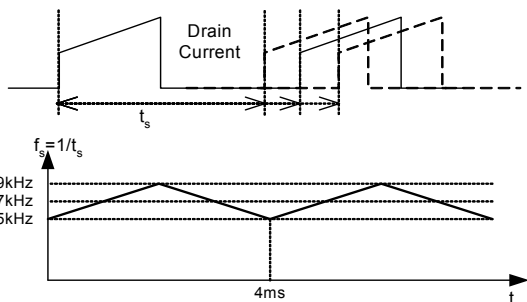

Figure 9. Frequency Modulation Waveform
7. Frequency Modulation : Modulating the switching frequency of a switched power supply can reduce EMI. Frequency modulation can reduce EMI by spreading the energy over a wider frequency range than the bandwidth measured by the EMI test equipment. The amount of EMI reduction is directly related to the depth of the reference frequency. As can be seen in Figure 9, the frequency changes from 65KHz to 69KHz in 4ms for the FSDM0365RNB (48.5KHz to 51.5KHz for FSDL0365RNB). Frequency modulation allows the use of a cost effective inductor instead of an AC input mode choke to satisfy the requirements of world wide EMI limits.